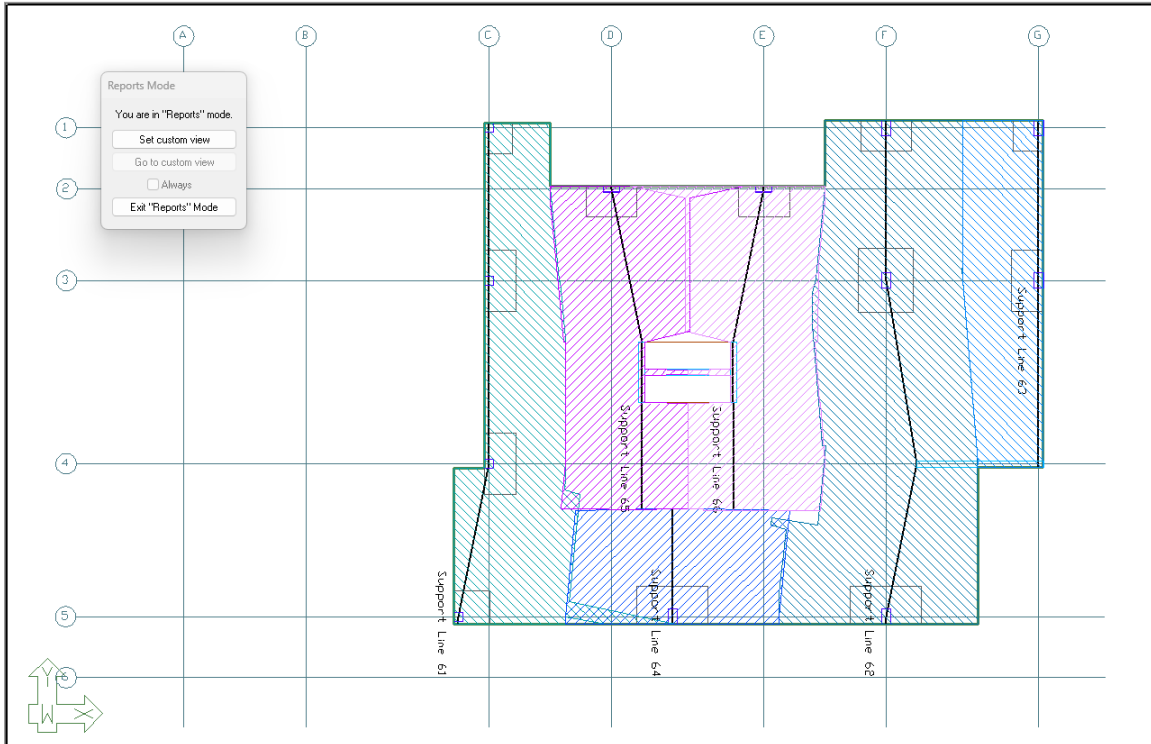

FIGURE 10-10
- Click **OK** on the next window that opens to view the report as shown in **FIGURE 10-10**.